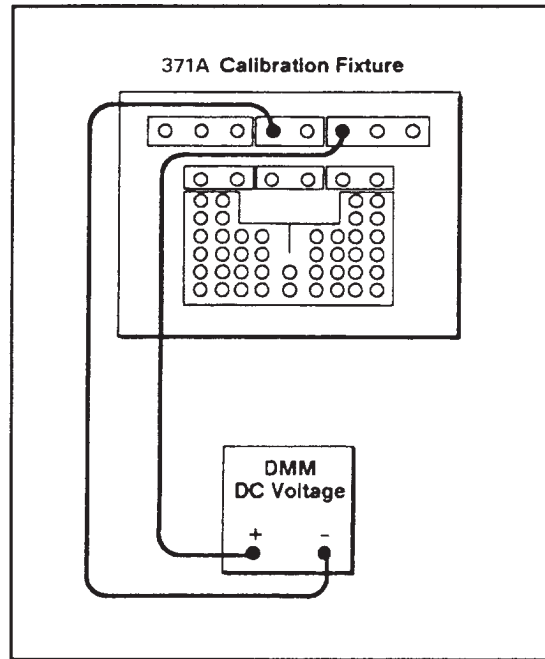

Figure 4-15. Setup for checking amplitude accuracy of voltage source mode.
3. Connect the digital multimeter between the STEP GENERATOR VOLTAGE terminal and the COMMON terminal as shown in Figure 4-15.